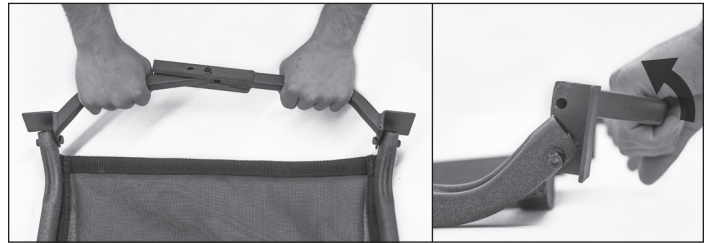

FIGURE 28a - Front hinged brace in vertical position
- Rotate the front hinged brace towards the seat to lock the brace in position. **SEE FIGURES 28a and 28b.**